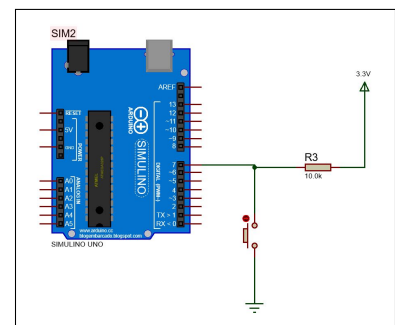

Figure 4: pull up resistor schema.
- **Pull-Up:** GPIO is connected to **Vcc** through a resistor (reads **HIGH** by default). When pressed, the pin is connected to **GND** (reads **LOW**). (see Figure 4)